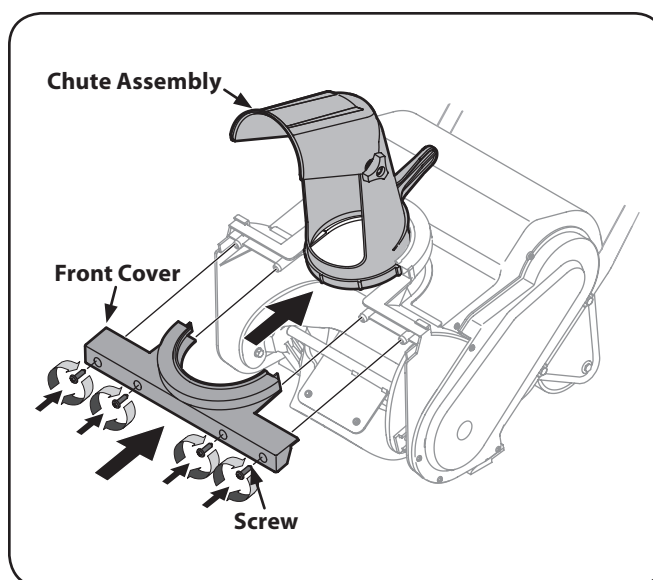

Figure 3-9
6. Re-install the front cover with the four screws removed in step 1. See Figure 3-9.